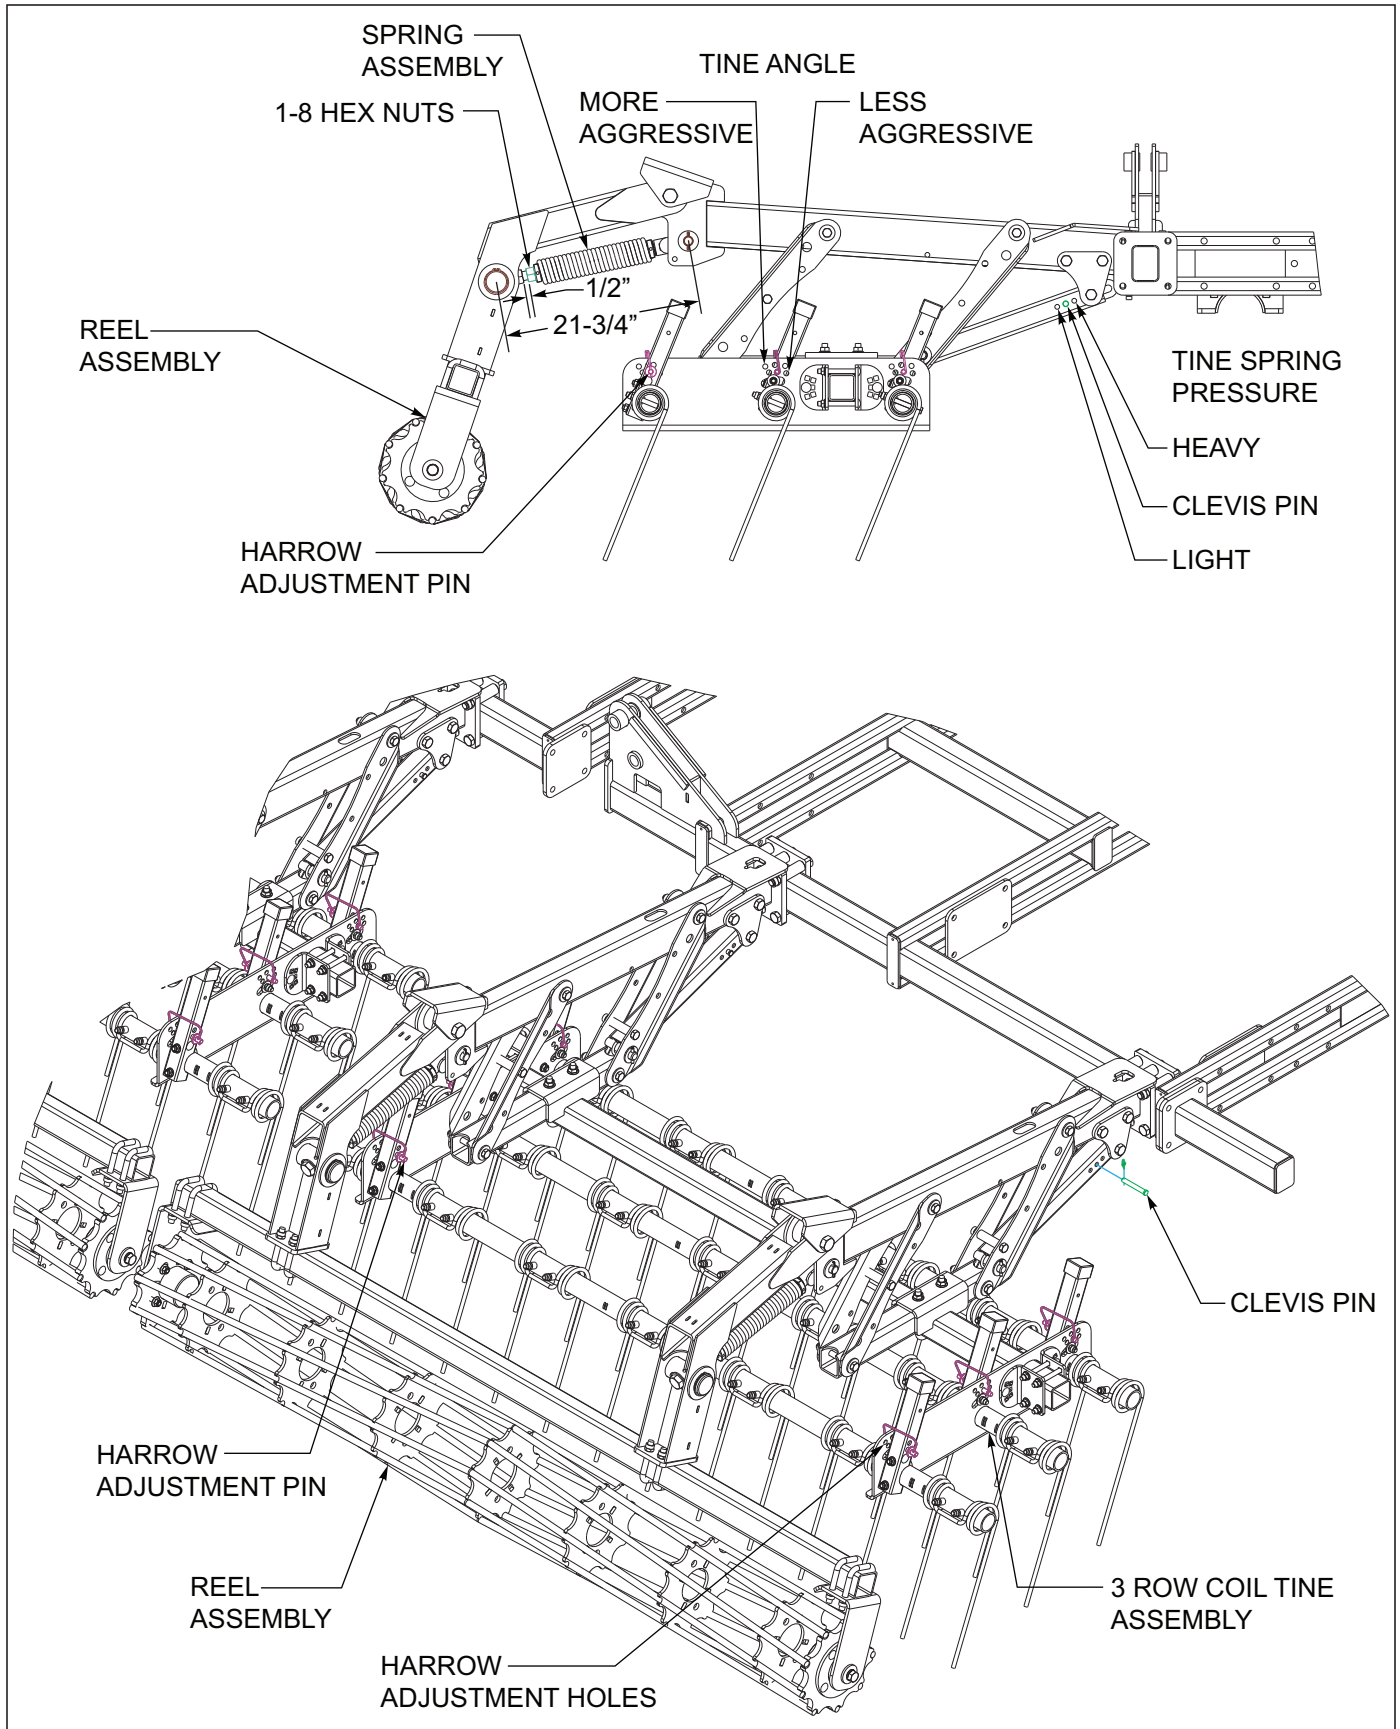

Figure 4-11: 3 Row Coil Tine and Reel Adjustments
3. In general tine harrows have better capabilities for handling more residue and wetter conditions. When operating the coil tine harrow, a more vertical tine tooth angle will make the harrow more aggressive. A lower/flatter tine angle will make the harrow less aggressive but will handle more residue and wetter conditions. To change the tine angle, raise the harrow off the ground. Remove the harrow pin from both angle adjustment tubes per tine gang bar tube See Figure 4-11. Rotate the angle adjustment tubes forward (less aggressive) or rearward (more aggressive) and reinstall both spring clip pins. Repeat the tine adjustment for each tine gang bar tube and harrow section.
4. Each coil tine harrow may be adjusted for spring pressure as well See Figure 4-11. Raise the tine harrow off the ground. Remove the clevis pin from the spring tube and install in a heavy or light setting as needed. **Excessive spring pressure and tine angle can overload harrow spring.**
5. To adjust the reel height, loosen the locking hex nut against the threaded spring end See Figure 4-11.